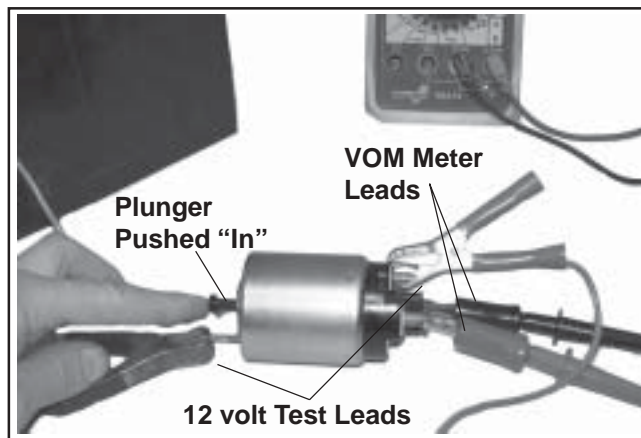

Figure 8-77. Testing Hold-In Coil/Solenoid Contact Continuity.
Use an ohmmeter set to the audible or Rx2K scale, and connect the two ohmmeter leads to the two large post terminals. Perform the preceding test (3) and check for continuity. See Figure 8-77. The meter should indicate continuity, if no continuity is indicated the solenoid should be replaced. Repeat test several times to confirm condition.